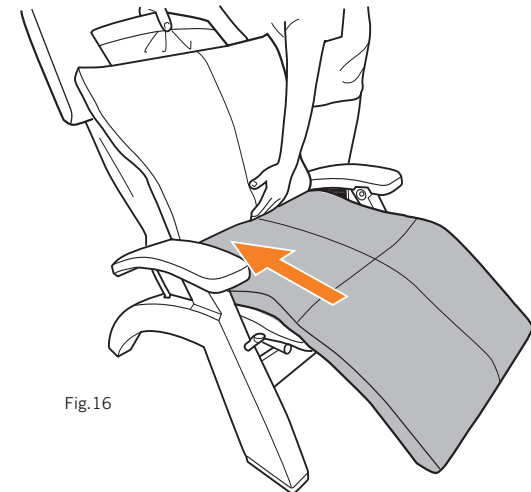

Fig.16
3. Lift up on the body pad to detach the seat hook and loop fasteners, pull it firmly up toward the seat, then press firmly down on the seat and leg area to secure it (Fig.16).